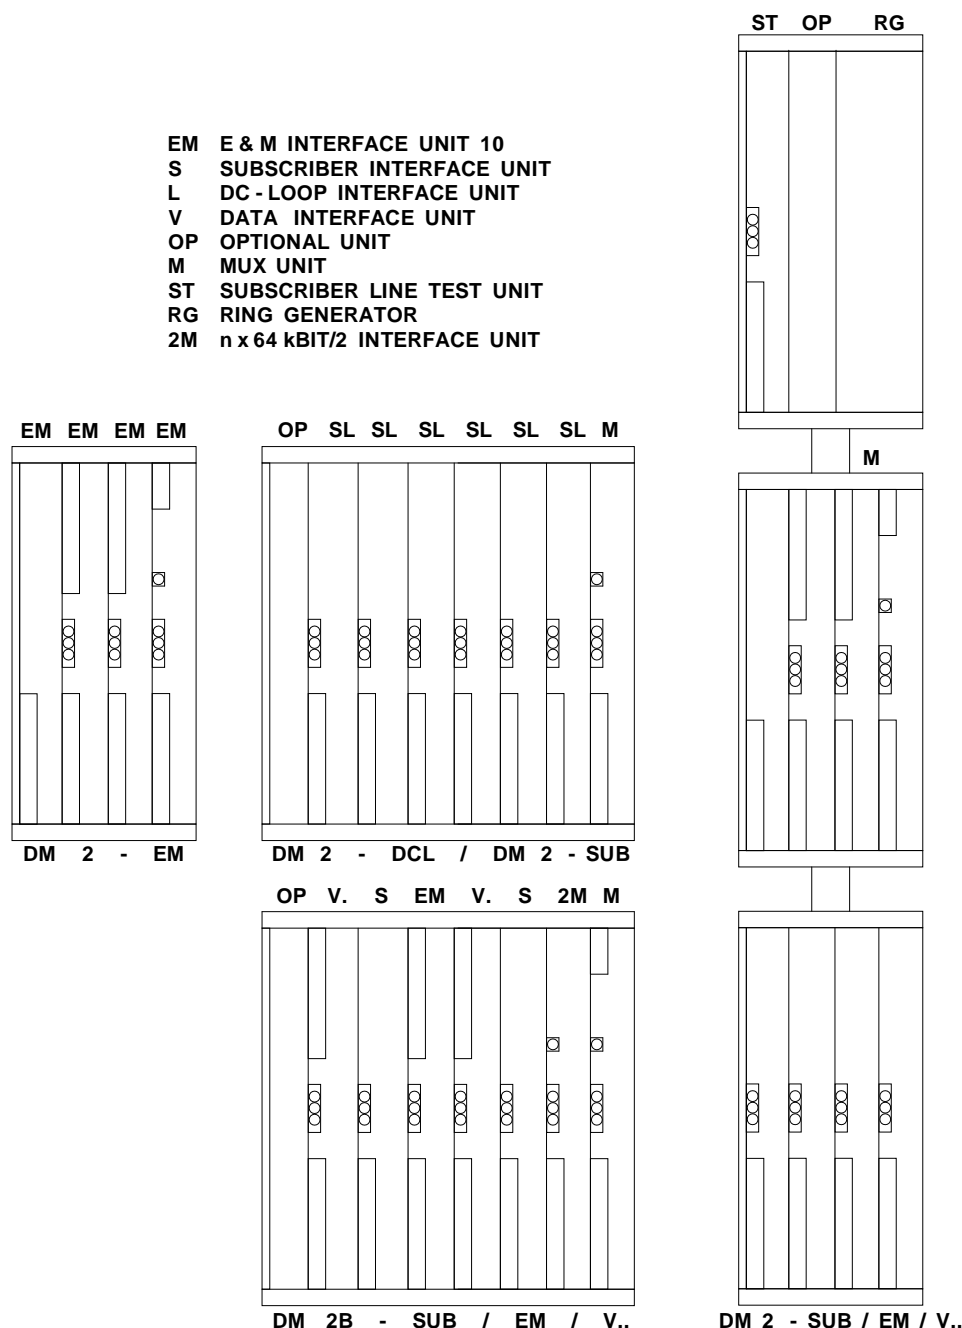

Figure 3.4 DM 2 equipping examples
Figure 3.4 presents a few typical sub rack-equipping alternatives.
The equipping examples (in Figure 3.4) are:
- * SLIM RACK (CEPT A) installation alternative where three 20T equipment cartridges are electrically interconnected. In the example of Figure 3.4, auxiliary units are installed into the uppermost cartridge. They can be common for more than one DM2 equipment such as the ringing generator, subscriber interface test unit. The unit space of the two lower cartridges can be correspondingly utilized as in the 40T cartridge equipping shown in the figure.